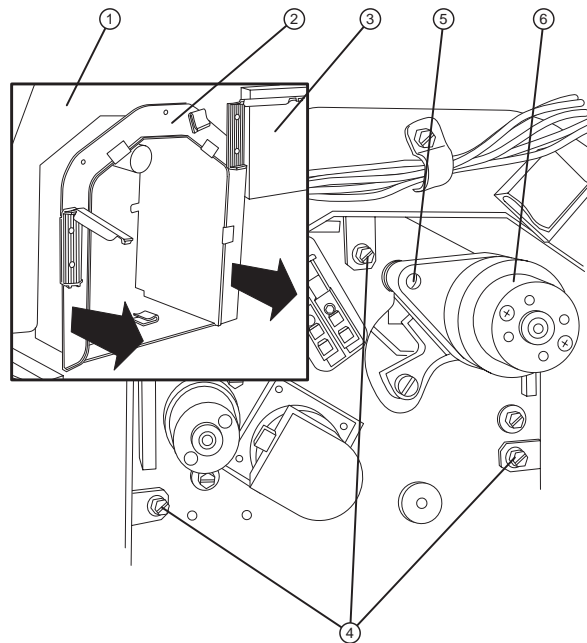

Figure 4-45 Removing the light shield to access the supply spindle select motor coupler screws.
2. Remove the supply spindle select motor cable from the supply SDM board at connector (J).
4. Remove the three (3) screws securing the inner light shield (shell surrounding the supply motors and sensors) to the imagesetter frame. Refer to Figure 4-45. Pull the inner light shield out enough to expose the coupler housing.